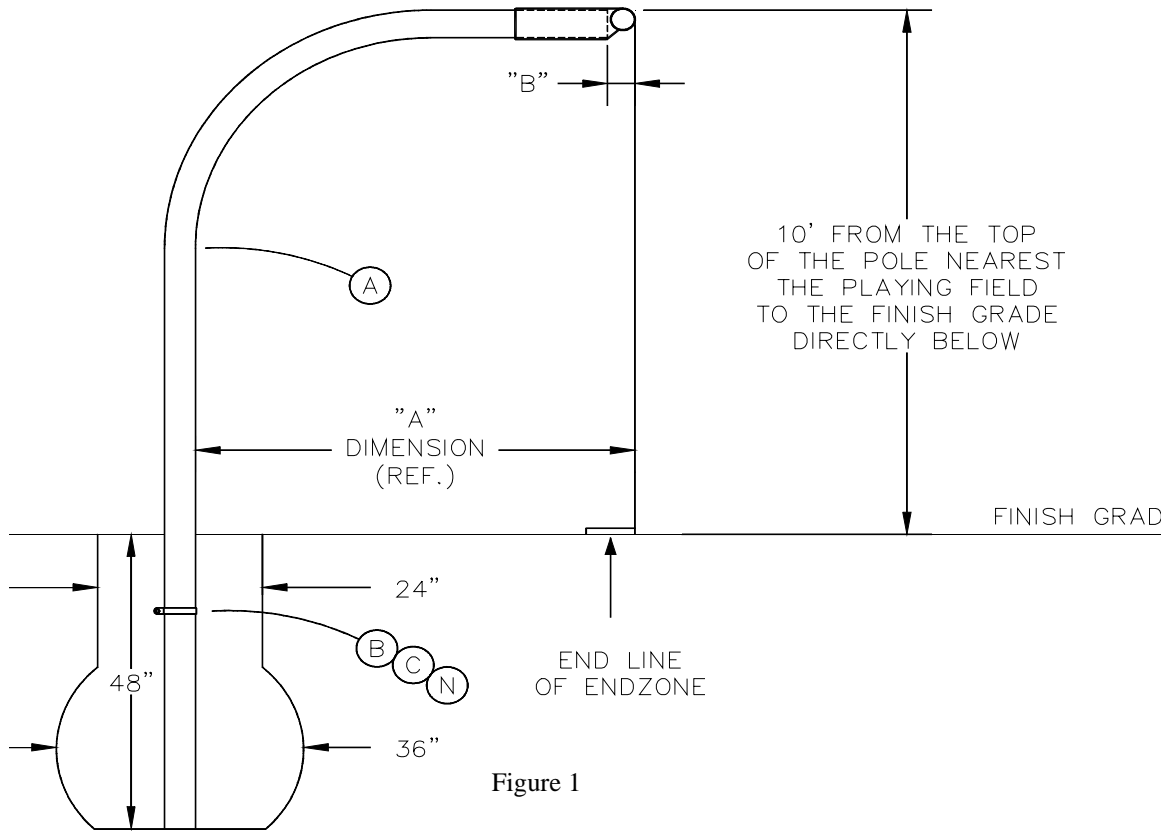

Figure 1
1. You will need to locate each gooseneck pole so that it is centered on the playing field. See chart for the distance behind the end line to locate the pole for each model. Dig a 24" diameter hole that is a minimum of 48" deep at each of these locations, it is recommended to bell out the bottom of the hole to 36" to strengthen the footing. See Figure 1. If you are using Bison ground sleeves refer to those instructions for the proper hole depth and diameter.
4. Attach the *Band Clamp* (B) with *5/16" X 2" Carriage Bolt* (C) and *5/16" Hex Nut* (N) approximately 2 feet from the bottom end of the *Gooseneck Pole* (A) (below ground level). Mix concrete according to the directions on the bag. It is advantageous to have the mixture "wet". This will increase your working time and allow batches to mix in the hole. Pour the hole to just below ground level. Insert pole into concrete while vibrating concrete to allow it to surround the pole completely. Remember to brace gooseneck pole to maintain 10' height and field orientation as previously described. See Figure 1.